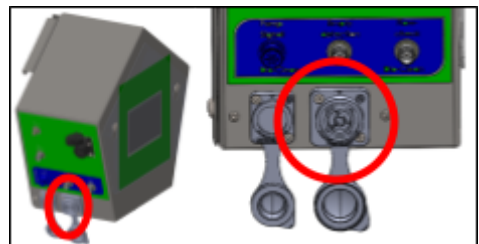

Figure 29.
5. Connect the cable with the black connector (See Figure 29)